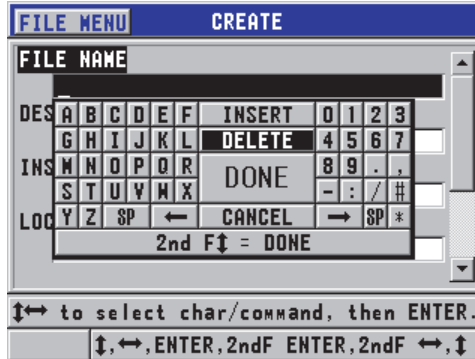

Figure 6-17 Example of the CREATE screen
2. In the **CREATE** screen (see Figure 6-17 on page 95):